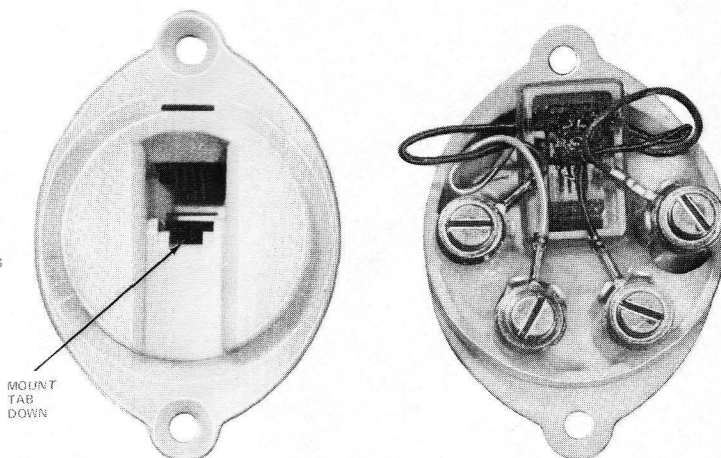

Fig. 5—625F Connecting Block (Without Mounting Hardware)
2.07 The **625F** connecting block (Fig. 5) is ♦ equipped with four screw terminals and ♦ intended for use in new installations requiring a flush-type connecting block or for modular replacement of 548A jacks or 47F connecting blocks. It does not include ♦the 65A♦ faceplate and mounting bracket (Fig. 15) ♦which must be ordered separately. The 625F connecting block is available in olive gray (-49), ivory (-50), and brown (-54).♦